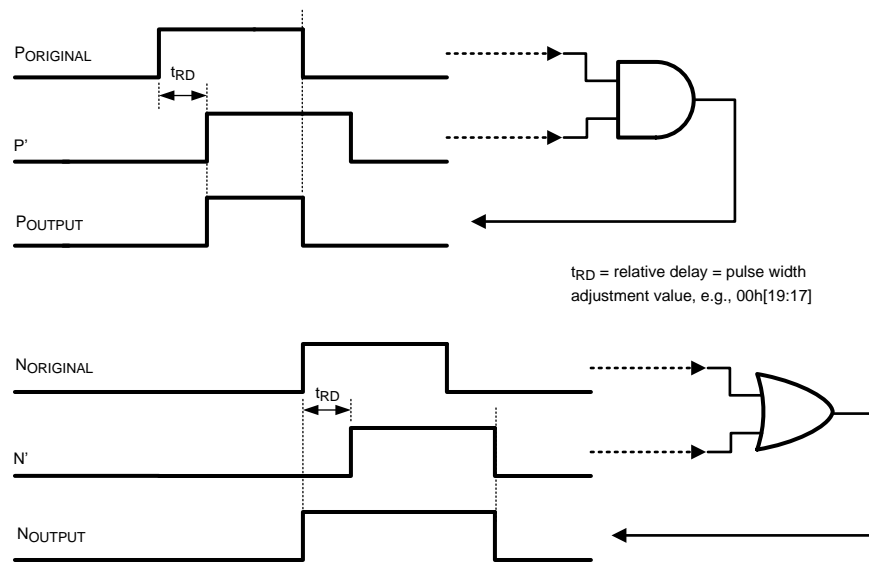

Figure 12. Pulse Width Adjustment (00h[21:20] = “10”)
Figure 12 illustrates a similar example, where 00h[21:20] = “10”. Here, the P output is the AND’d result of the original P with the internally delayed P’, while the N output is the OR’d result of the original N with the internally delayed N’. The outcome is: (1) the P output is delayed, while the N output remains undelayed; (2) the P output pulse width has decreased, while the N output pulse width has increased.